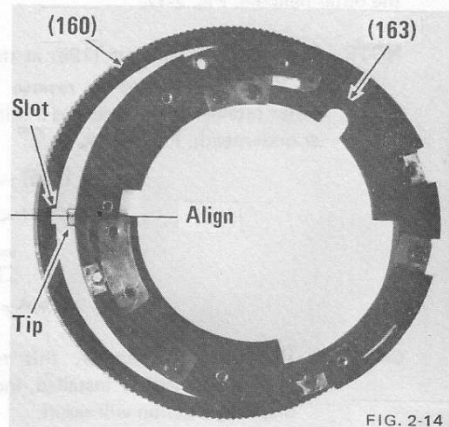

FIG. 2-14
- i) Separate the aperture ring from the mount frame, noting that the tip of the cam ring fits into the slot in the aperture ring. Fig. 2-14.